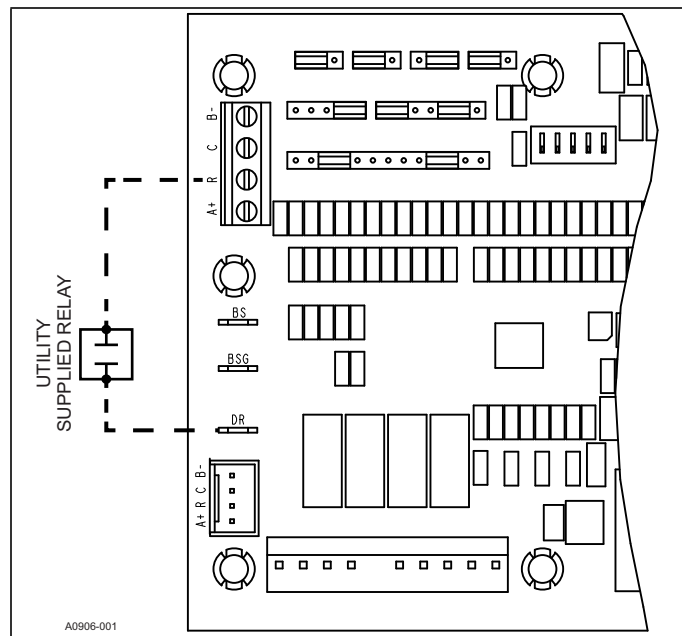

FIGURE 15: Demand Response Wiring
The main outdoor control has a conventional 24VAC input (DR) for utility demand response signals. When a 24VAC signal is present on the DR input with a **communicating system**, the HX™ thermostat will adjust the indoor temperature setpoint by the installer selected setting. For further details on available settings, please refer to the HX™ thermostat installation and operation manual. With a **non-communicating system**, a 24VAC signal on the DR terminal will not allow the system to run in second stage, cooling operation only. The DR input terminal location can be found in Figure 15.